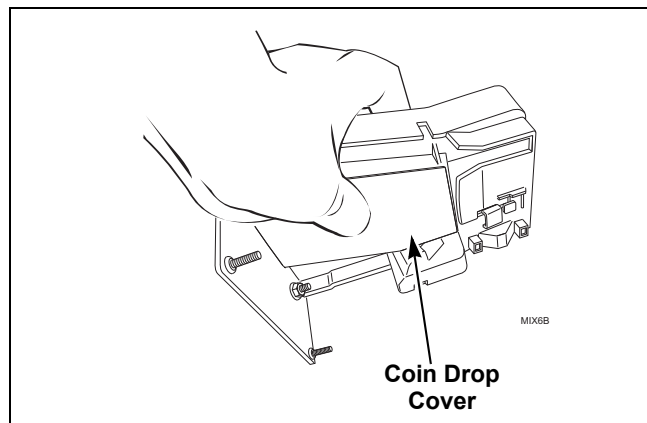

Figure 12
2. Manually hold down coin drop cover and insert coin. Refer to *Figure 12*.